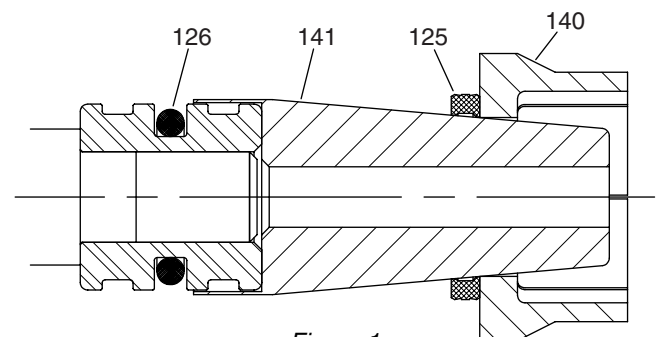

Figure 1
PN Kits comprise a polyurethane seal for Group 1 service or filled PTFE seal for Group 5 service (125), an energizing ring (126) and two wear rings (127), plus cylinder body O-rings (47) and their back-up washers (26), where fitted. Install the energizing ring followed by the seal. Position the wear rings in their grooves. Lubricate the cylinder body with a light oil, and insert the piston. For 25 and 32mm bore cylinders, best results will be achieved by using tools and technique as shown in Figure 1.